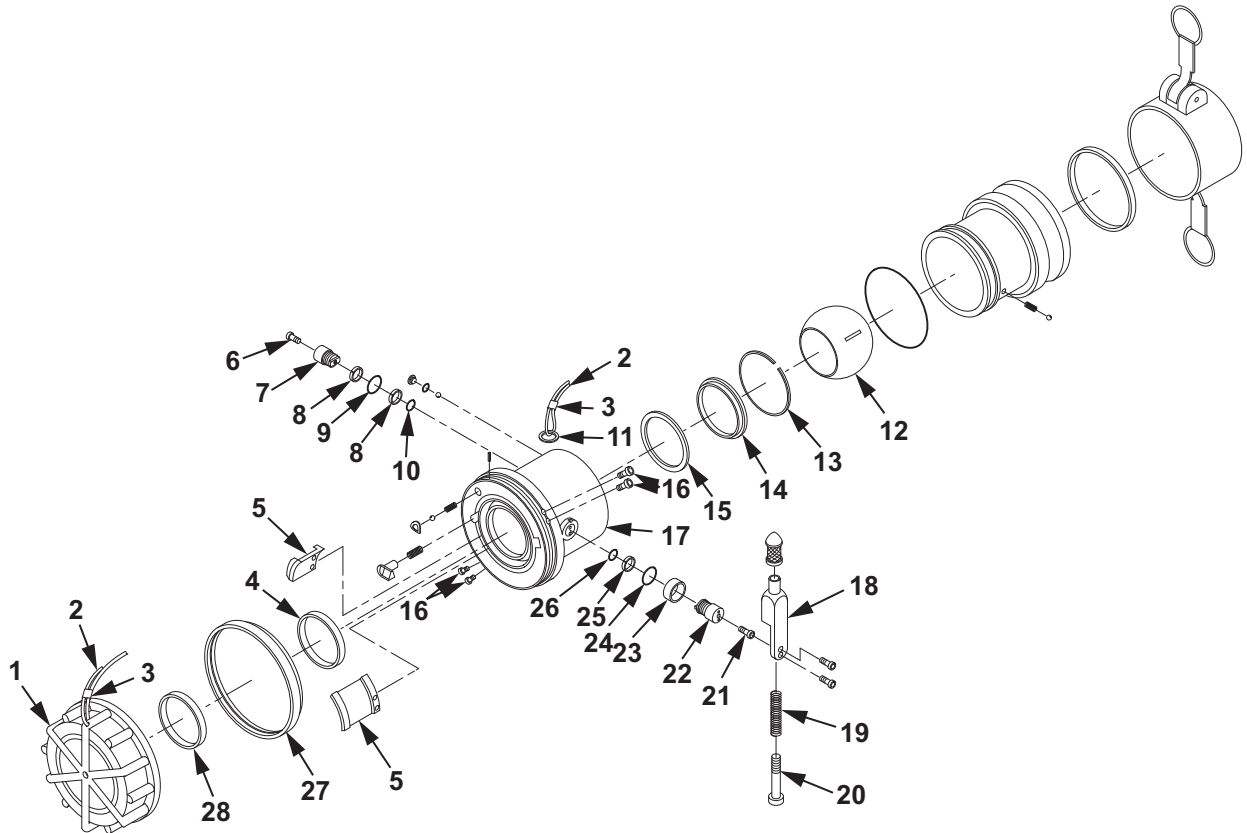

Figure 3. 4 In. Male Camlock X 3 In. Valved Dry-Break Adapter Assembly.
If it was necessary to replace bumper (Figure 3, Item 27) or lugs (Figure 3, Item 5), perform the following installation steps.
6. Position lugs (Figure 3, Item 5) in coupling (Figure 3, Item 17).
7. Install screws (Figure 3, Item 16) into coupling (Figure 3, Item 17).
8. Install new seal (Figure 3, Item 4) into coupling (Figure 3, Item 17) interface.
9. Using torque wrench and screwdriver bit, torque screws (Figure 3, Item 16) to 6 in. lb (0.70 N•m).
10. Position bumper (Figure 3, Item 27) with thin lip seal end facing away from coupling (Figure 3, Item 17).
11. Install bumper (Figure 3, Item 27) on coupling (Figure 3, Item 17).
If it was necessary to replace dust cap (Figure 3, Item 1), perform the following five installation steps.
12. Install new seal (Figure 3, Item 28) on dust cap (Figure 3, Item 1).
13. Loop one end of 18 in. cable (Figure 3, Item 2) through sleeve (Figure 3, Item 3), dust cap (Figure 3, Item 1) and back through sleeve (Figure 3, Item 3).
14. Using pliers, crimp sleeve (Figure 3, Item 3).
15. Loop other end of 18 in. cable (Figure 3, Item 2) through sleeve (Figure 3, Item 3), split ring (Figure 3, Item 11) and back through sleeve (Figure 3, Item 3).
16. Using pliers, crimp sleeve (Figure 3, Item 3).
17. Install new seal (Figure 3, Item 15) in coupling (Figure 3, Item 17).
18. Install seal retainer (Figure 3, Item 14) in coupling (Figure 3, Item 17).
19. Install retaining ring (Figure 3, Item 13) in coupling (Figure 3, Item 17).
20. Install new bushings (Figure 3, Item 8) on lower shaft (Figure 3, Item 7).
21. Lightly lubricate new O-rings (Figure 3, Item 9, 10) with petrolatum and install new O-rings (Figure 3, Item 9, 10) on lower shaft (Figure 3, Item 7).
22. Position ball valve (Figure 3, Item 12) in the open position and install inside coupling (Figure 3, Item 17).
23. Install lower shaft (Figure 3, Item 7) inside coupling (Figure 3, Item 17).
24. Install screw (Figure 3, Item 6) on lower shaft (Figure 3, Item 7).
25. Install new bushings (Figure 3, Item 23, 25) on upper shaft (Figure 3, Item 22).
26. Lightly lubricate new O-rings (Figure 3, Item 24, 26) with petrolatum and install new O-rings (Figure 3, Item 24, 26) on upper shaft (Figure 3, Item 22).
27. Install upper shaft (Figure 3, Item 22) in coupling (Figure 3, Item 17).
28. Install screw (Figure 3, Item 21) on upper shaft (Figure 3, Item 22).
If it was necessary to disassemble control arm (Figure 3, Item 18), perform the following assembly steps.
29. Place spring (Figure 3, Item 19) on screw (Figure 3, Item 20).
30. Install screw (Figure 3, Item 20) into control arm (Figure 3, Item 18).